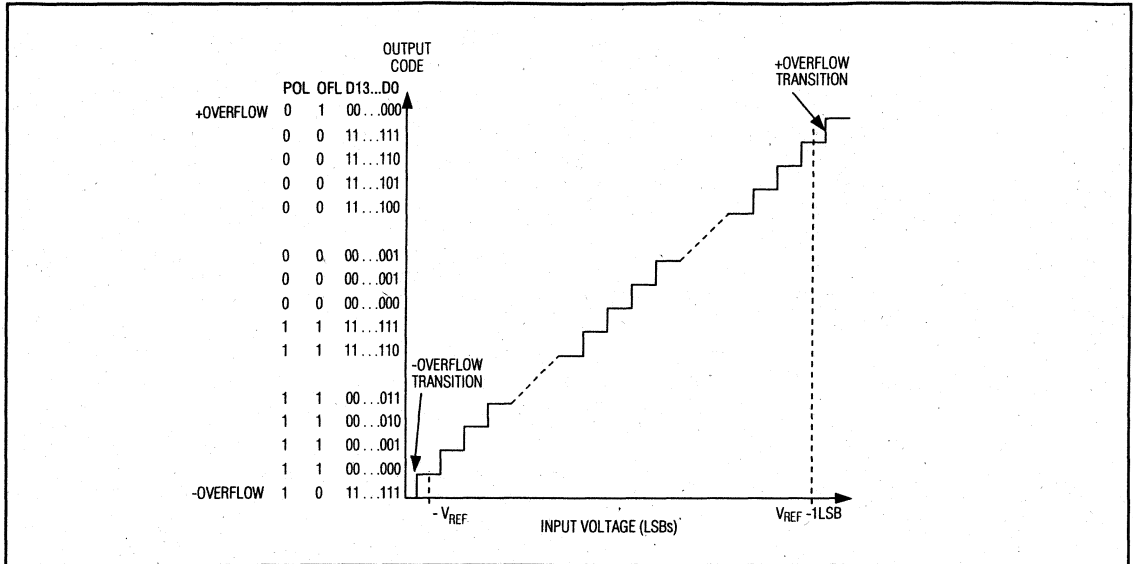
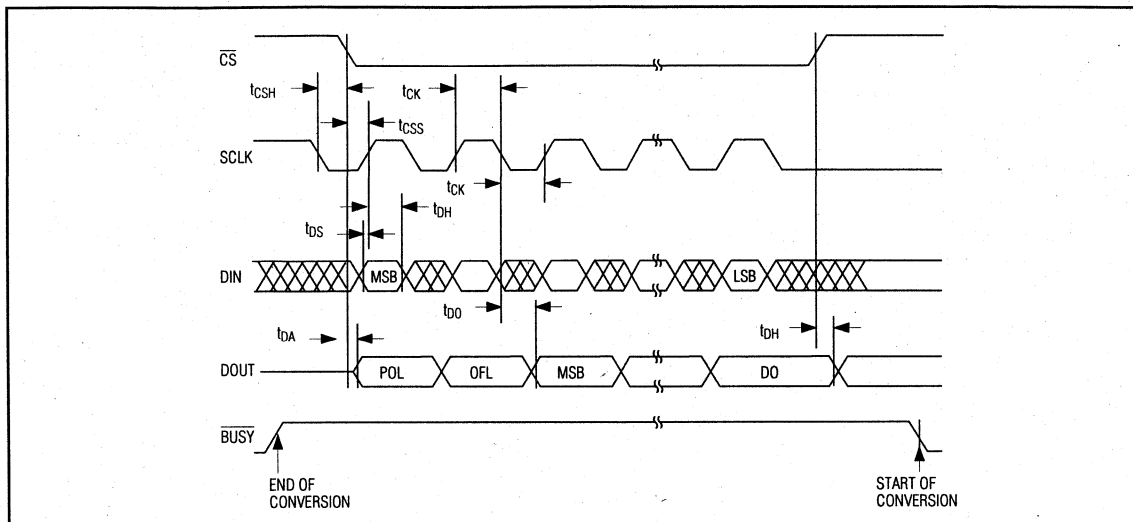

Figure 4. Differential Transfer Function
Figure 6. Detailed Serial-Interface Timing
TIMING CHARACTERISTICS (see Figure 6)
The output data from the MAX110/MAX111 is arranged in two's-complement format (Figures 4, 5). The sign bit (POL) is shifted out first, followed by the overrange bit (OR), and the 14 data bits (MSB first) (see Figure 6). The MAX110 operates from $\pm 5V$ power supplies and converts low-frequency analog signals in the $\pm 3V$ range when using the maximum reference voltage of $V_{REF} = 3V$ ($V_{REF} = V_{REF+} - V_{REF-}$). Within the $\pm 3V$ input range, greater accuracy is obtained within $\pm 2.5V$ (see *Electrical Characteristics* for details). Note that a negative input voltage is defined as $V_{IN-} > V_{IN+}$. For the MAX110, the absolute voltage at any analog input pin must remain within the $(V_{SS} + 2.25V)$ to $(V_{DD} - 2.25V)$ range.
Data is transferred into and out of the serial I/O shift register by pulling $\overline{CS}$ low and applying a serial clock at SCLK. This fully static shift register allows SCLK to range from DC to 2MHz. Output data from the ADC is clocked out on SCLK's falling edge and should be read on SCLK's rising edge. Input data to the ADC at DIN is clocked in on SCLK's rising edge. A new conversion begins when $\overline{CS}$ returns high, provided the MSB in the input control word (NO-OP) is a 1 (see *Using the MAX110/MAX111 with Microwire, SPI, and QSPI Serial Interfaces*). Figure 6 shows the detailed serial-interface timing diagram.